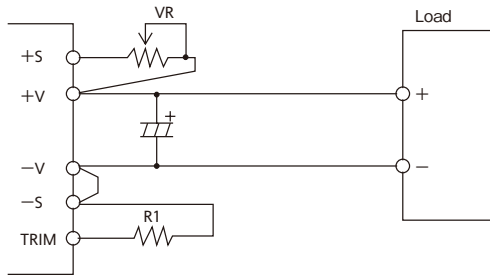

Fig.2-4 Example Connection of External Resistor
Resistor values, as well as, connecting methods for external resistor (R1) and external variable resistor (VR) are shown in Table 2-1 and Fig 2-4 respectively.